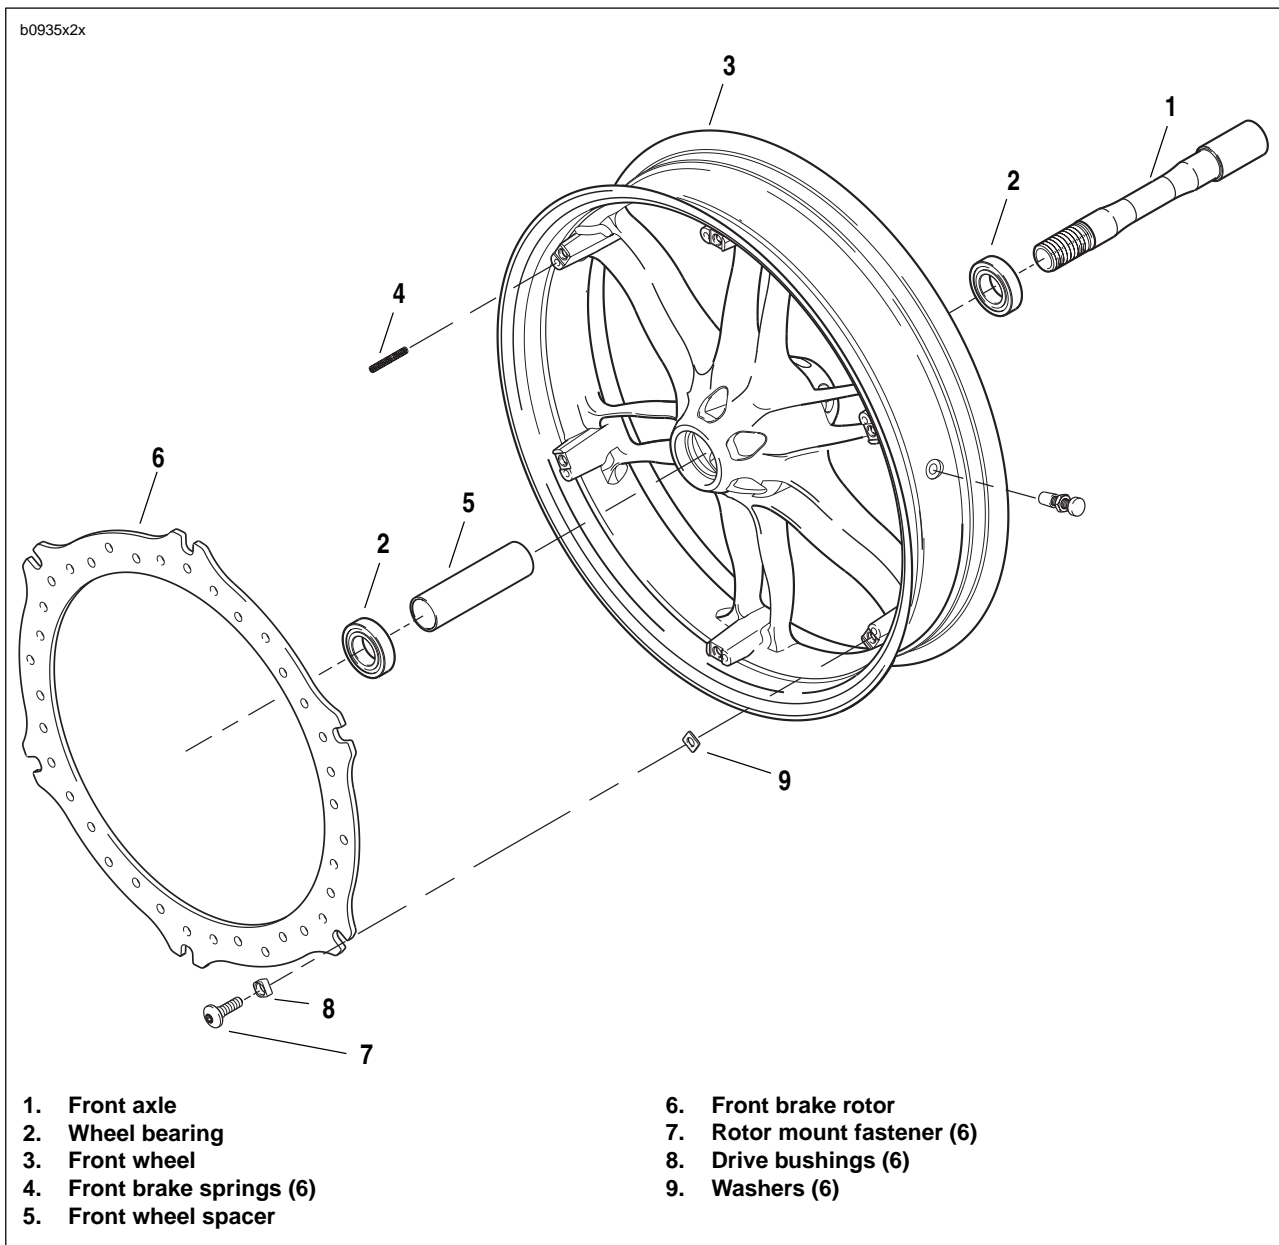

Figure 2-18. Front Wheel Assembly
1. See Figure 2-18. Remove and discard rotor mounting fasteners (7).
2. Remove and inspect brake rotor (6) for wear and warping. See 1.7 TIRES AND WHEELS.
3. Remove drive bushings (8) and discard.
4. Remove washers (9) and discard.
5. Remove rotor spring (4) and discard.
1. See Figure 2-18. Install spacer (5).
2. Install **new** wheel bearings (2) into hub using suitable driver. Press on outer race only.
1. See Figure 2-18. Install **new** spring (4).
2. Install **new** washers (9).
3. Install drive bushings (8) into rotor.
Note the identifying mark of rotor is up and radius end of drive bushing (8) toward center of wheel. See Figure 2-18.
4. See Figure 2-18. Align reference dot on front rotor with the valve stem.